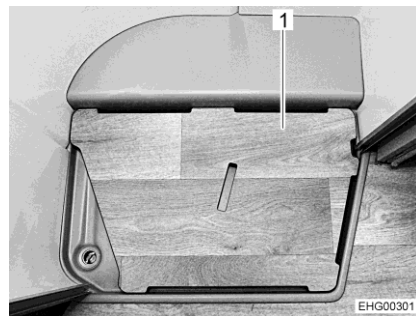

Fig. 109 Shower grate insert
- Before taking a shower, take the shower grate insert (Fig. 109,1) out of the shower.